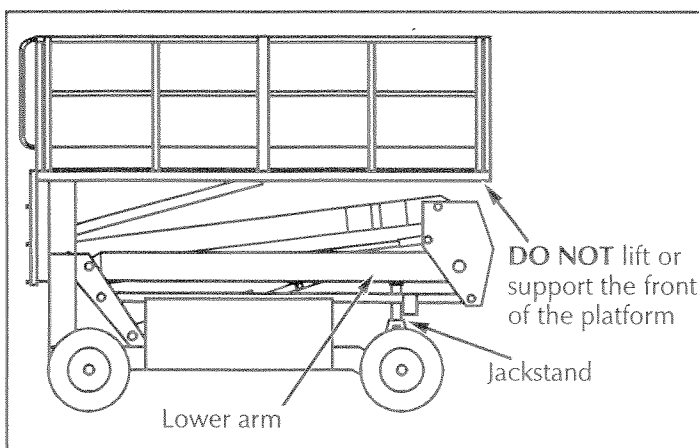

Figure 4-1: Blocking the Elevating Assembly
4.2 Blocking Elevating Assembly (Figure 4-1)